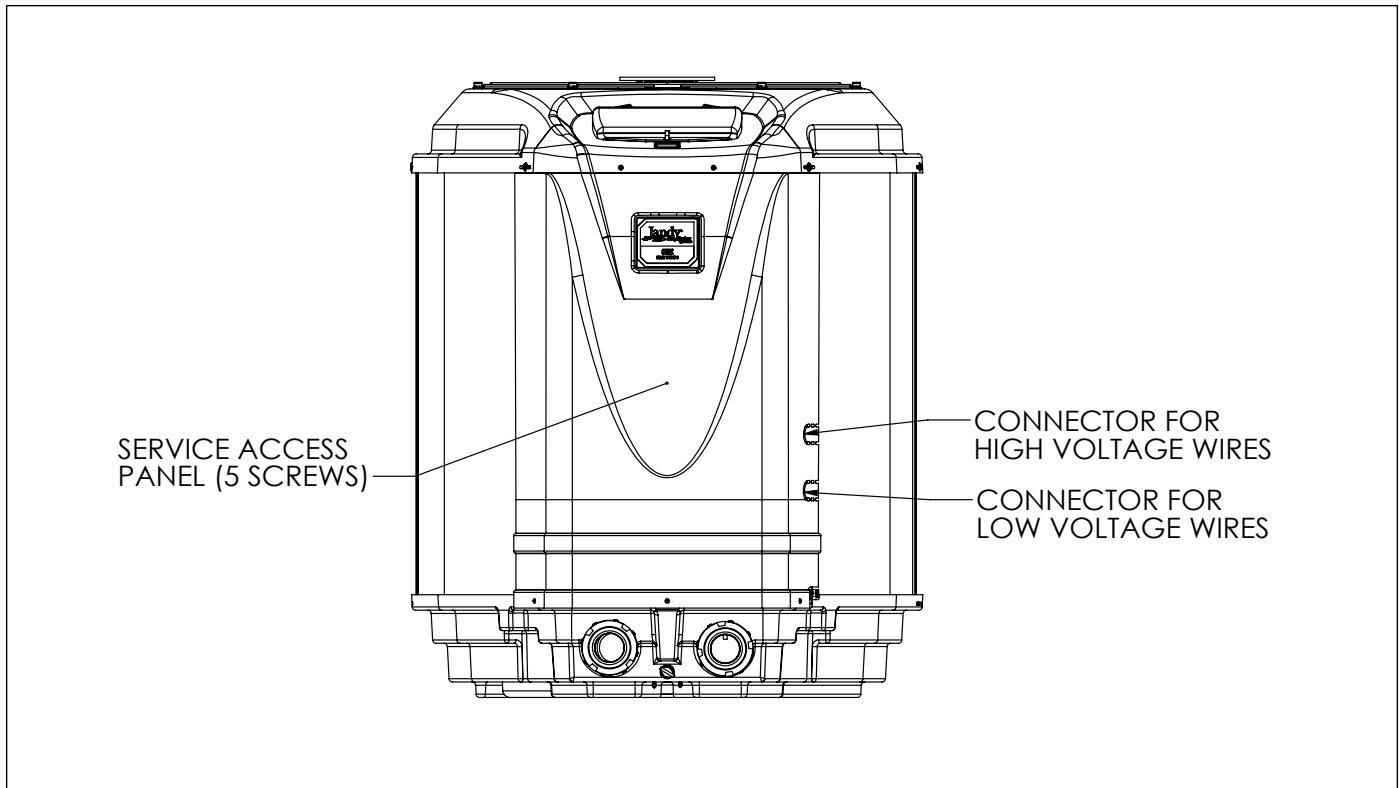

Figure 10. Jandy JE Heat Pump Front View
2. Remove the five (5) screws that attach the service/access panel to the heat pump unit (see Figure 10).
4. Electrical supply lines must be run through watertight conduit. Route the wires and conduit through the knock-out designated for high voltage on the right side of the heat pump. Connect to the bottom of the sheet metal junction box. See Figure 10 for knock-out location.
2. Remove the screws that attach the service/access panel to the heat pump unit and the cover to the junction box (see Figure 10).
3. Run the wires from the pool/spa control system into the conduit connection labeled “Low Voltage Connection”, located on the lower right hand side of the heat pump (see Figure 10).
2. Remove the screws that attach the service/access panel to the heat pump unit and the cover to the junction box (See Figure 10).
3. Run the wires from the pool/spa control system into the conduit connection labeled “low voltage connection”, located on the lower right hand side of the heat pump (See Figure 10).
**NOTE** If connecting more than two (2) items to the RS Power Center red, 4-pin connector, a Multiplex PCB is required.
2. Remove the five (5) screws that attach the front panel to the heat pump and remove the cover to the junction box. See Figure 10.
3. Run four (4) 22 AWG solid copper wires into the conduit labeled “Low Voltage Connection” located on the lower right hand side of the heat pump. See Figure 10. The wires may be up to 300 feet (91.4 m) in length.